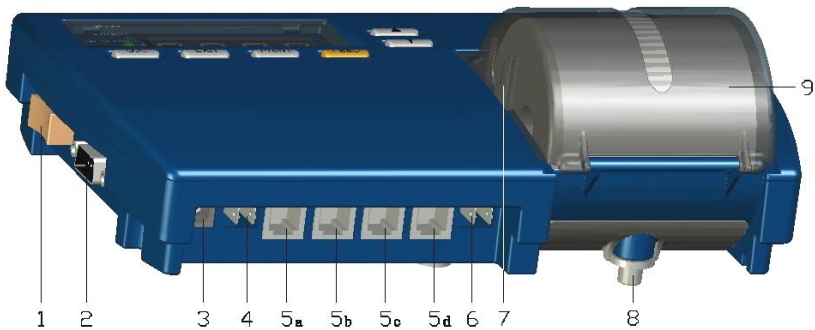

Figure 1: CTR - Front/Top View
Figure 1 shows the front and top of the CTR.
3. Open the paper cover by pushing the two cover clips (item 7 in Figure 1) to the inside and pulling the cover out.